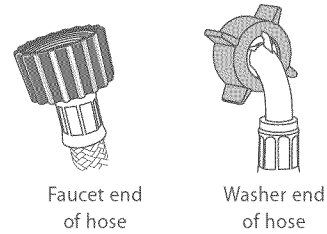

Fig.6 Inlet hose ends
- 1 Install hoses with the straight end (with filters) fitted to the faucets (Fig.6).
- 2 Install elbow ends onto washing machine (Fig.6).